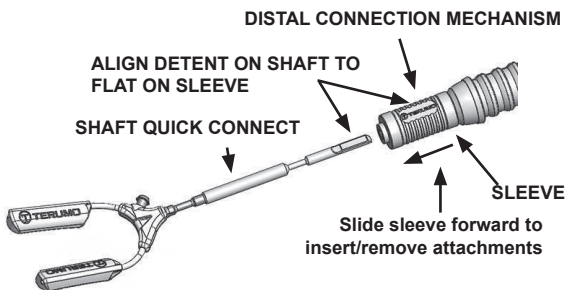

Figure 4 – Attachment of accessory device to the Hercules™ 3 Universal Stabilizer Arm (Product Reference T401161)
- a. For connection of a standard Terumo SHAFT QUICK CONNECT attachment, slide the sleeve of the Hercules Universal Stabilizer Arm forward and insert the shaft of the attachment into the quick connect with the detent on the shaft (of the attachment) facing the flat area with logo on the sleeve of the Hercules Universal Stabilizer Arm (see Figure 4). Return the sleeve to its original position to lock the accessory device into the quick connect. Check for secure connection.